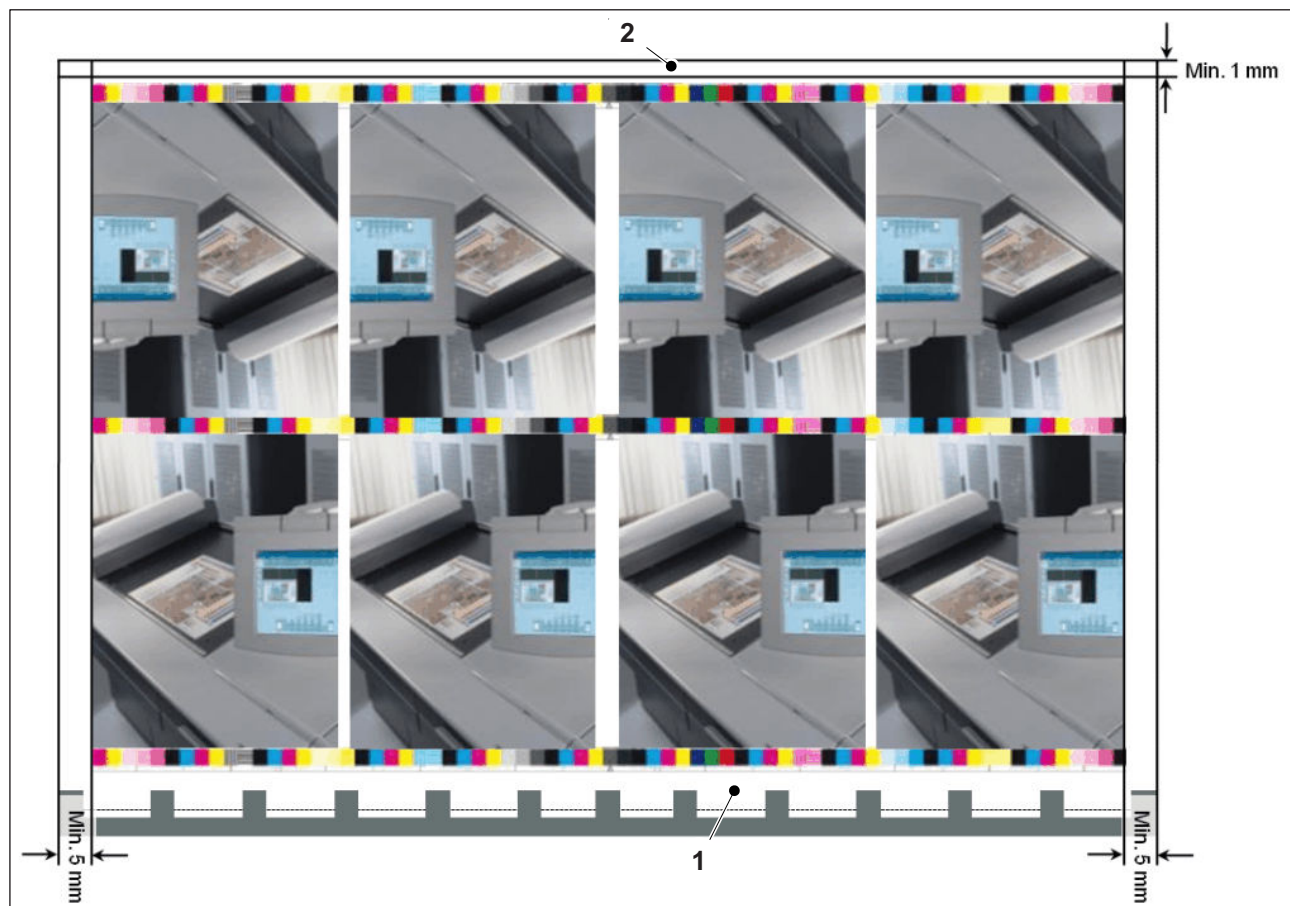

Fig. 21 Mounting Prinect Inpress Control
- You can mount the quality control strip at any position you wish between the gripper margin (Fig. 21/1) and the rear edge of sheet (Fig. 21/2).